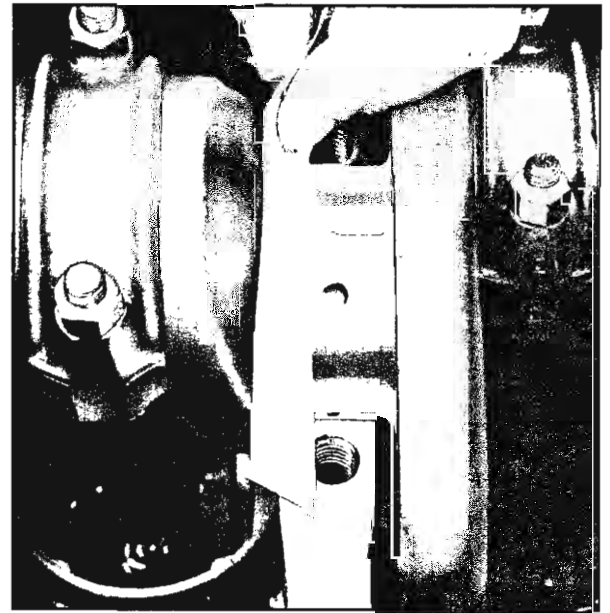

Fig. 45—Measuring Plastigage
5. Without removing the Plastigage, check its compressed width (at the widest point) with the graduations on the Plastigage envelope (fig. 45).